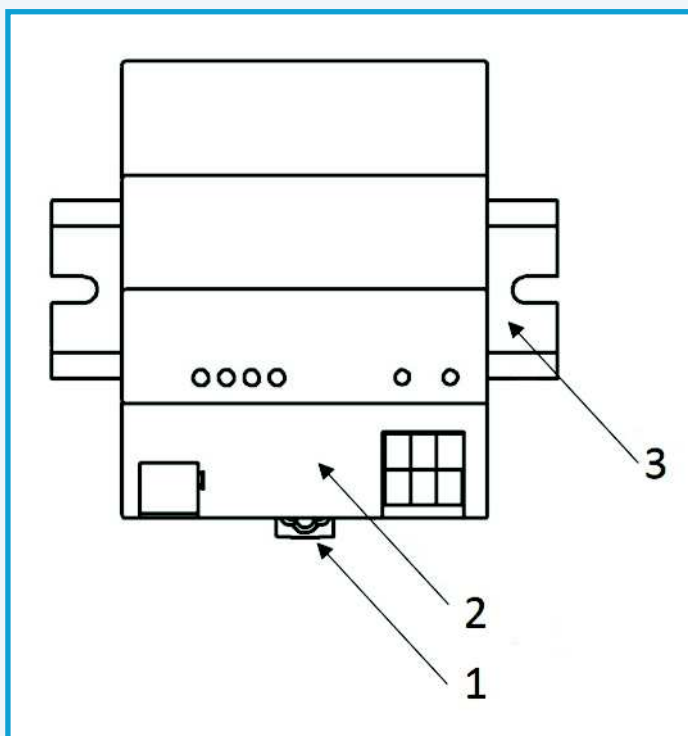

Figure 6.1 - Controller installation
- 6.2 The controller must be installed inside an electrical cabinet, equipped with DIN-rail 35mm x 7.5mm EN 50022. Operating position - vertical, see Figure 6.1.
- 6.3 For installation on the rail pull the clip (1) on the bottom cover of the controller and put the controller (2) on the rail (3), holding the controller on the rail close the clip as shown in the picture (Fig.6.1)